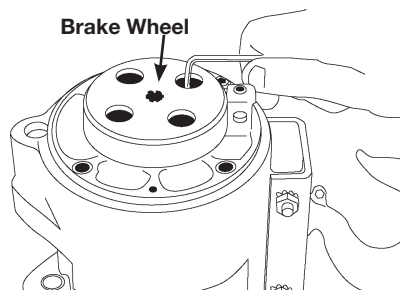
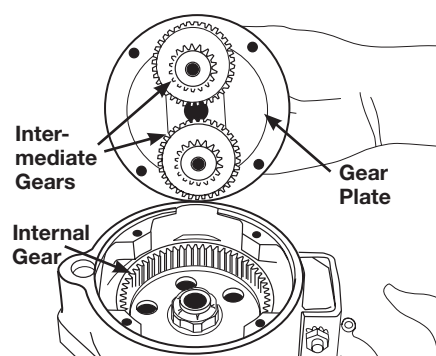
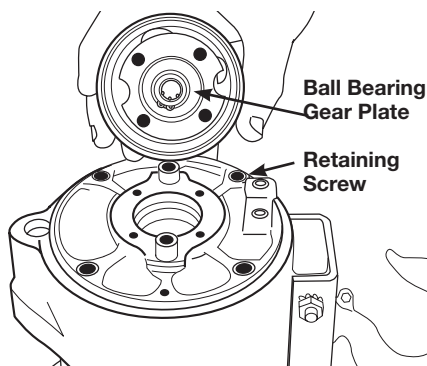
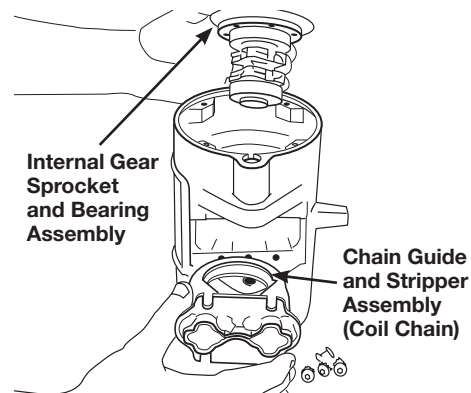

Figure 18- Removing Cap Screws Securing Bearing Clamp Plate
Figure 20- Removing Gear Plate and Intermediate Gears
Figure 19- Removing Brake Wheel and Ball Bearing Assembly
Figure 21- Removing Internal Gear, Chain Sprocket and Ball Bearing Assembly
1. Rotate brake wheel until holes in web are aligned with four socket head cap screws (Figure 18). Remove screws, then lift brake wheel off (Figure 19) after prying up lightly and evenly with screwdriver to free ball bearing. Ball bearing and clamp plate are pressed off after removing retaining ring from wheel hub.
2. Remove four socket head screws securing gear plate to frame and lift off plate and intermediate gears as a unit (Figure 20). Do not remove the two socket head screws from flange around brake wheel bearing hole (Figure 19) unless it is necessary to replace intermediate gears.
3. Remove four fillister head screws attaching chain guide and stripper assembly to hoist frame. This will free guide to allow sprocket to be pulled through it as it is removed in step (5) (See Figure 21).
4. Rotate internal gear (Figure 20) until holes in web align with six socket head screws securing bearing clamp plate to frame. Remove internal gear, chain sprocket and ball bearings as a unit (Figure 21). It may be necessary to tap sprocket to free ball bearings from bores in frame.
If the brake linings show excessive wear, replace brake shoes. In reassembling the brake, the brake wheel assembly goes into position first and is fastened in place by the four screws (See "Disassembly and Reassembly," page 13 Figures 18 and 19). Now place the steel fulcrum balls in their receiving cup, using a small amount of thick grease to hold them in place. The balls should retract completely into the receiving cups. Now place the shoes up to the fulcrum balls and brake wheel. Replace the brake